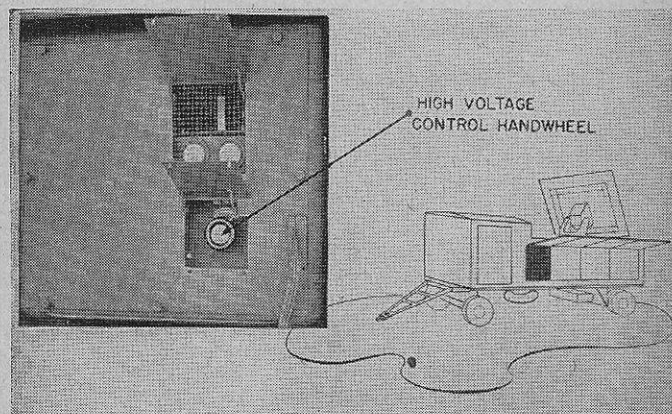

FIGURE 18.—High voltage rectifier.
■ 16. HIGH VOLTAGE RECTIFIER.—This unit supplies the power that is transformed into radio energy in the SEARCH and TRACK TRANSMITTERS. Its d-c output, which is controlled by the HIGH VOLTAGE CONTROL HANDWHEEL shown in figure 18, and for which there is a VOLTAGE ADJUSTMENT in the trailer cab (fig. 44), is measured on the d-c ammeter and voltmeter shown in the figure. The unit cannot be placed in full operation unless the covers of the HIGH VOLTAGE RECTIFIER, the TRACK TRANSMITTER, and the SEARCH TRANSMITTER are in place because of interlocks which are held closed by these removable covers.